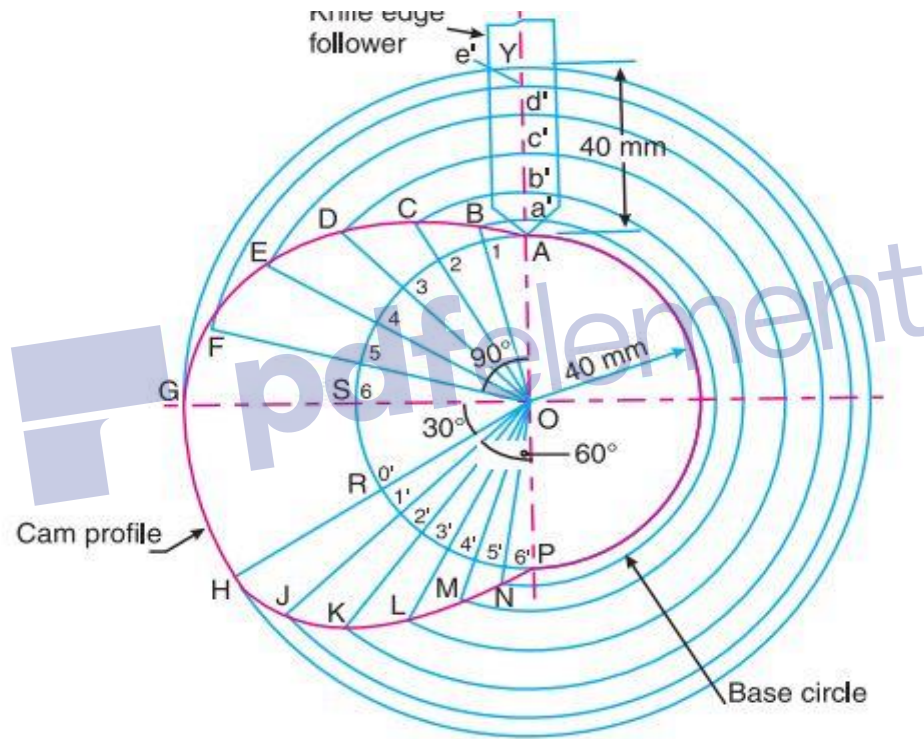

Fig. 20.13
First of all, the displacement diagram, as shown in Fig 20.13, is drawn as discussed in the following steps :
2. Draw vertical line $AY = 40 \text{ mm}$ to represent the cam lift or stroke of the follower and complete the rectangle as shown in Fig. 20.13.
6. Join the points $A, B, C \dots$ etc. with a smooth curve as shown in Fig. 20.13. This is the required displacement diagram.